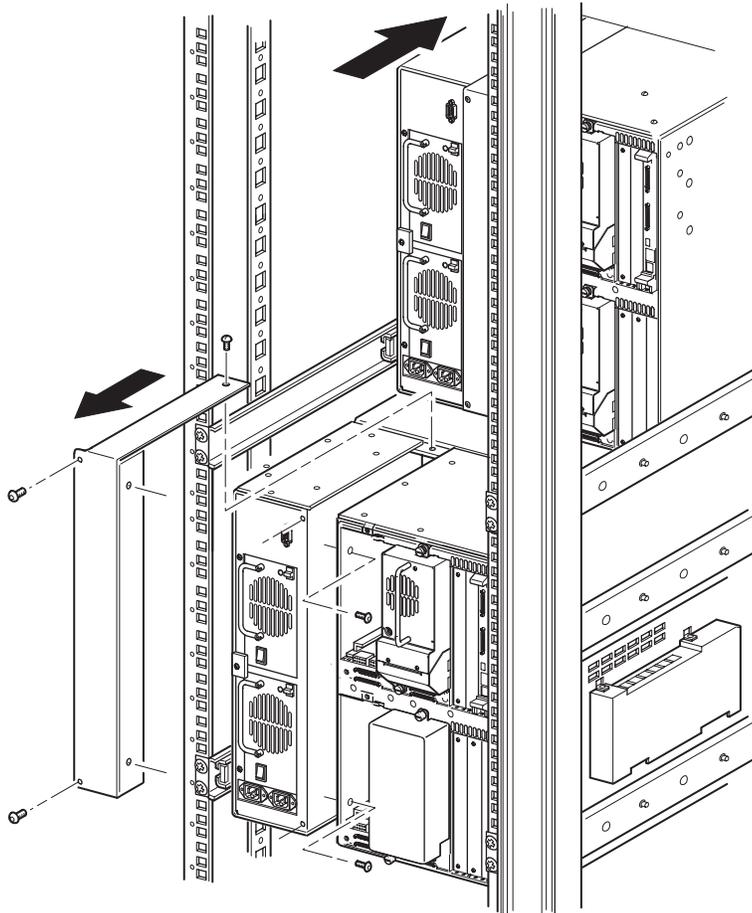

Figure 2–9: Removing a PTM cover plate (MSL5052)
- c. Using a #2 Phillips screwdriver, remove the screws that secure the PTM cover plate to the rear of each library chassis (see Figure 2–9).